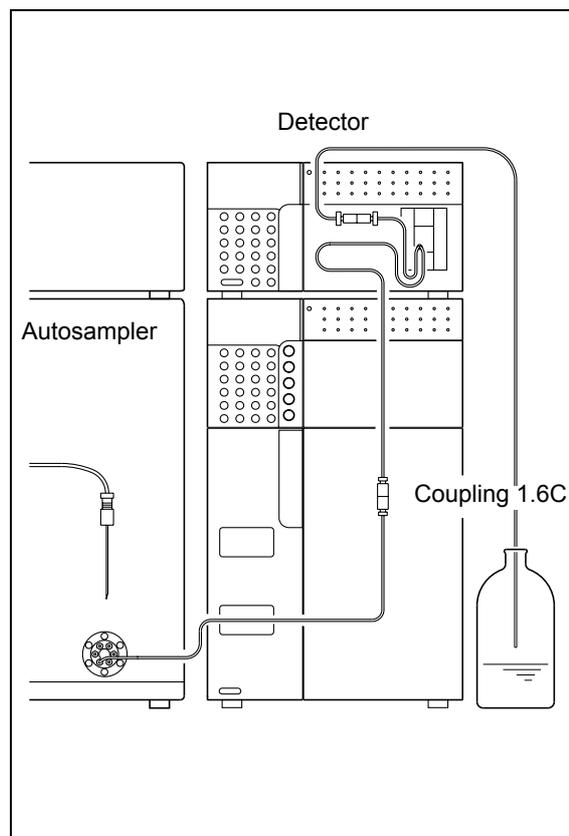

Fig. 7.11
3 Clean the system flow lines using one of the procedures described below. Before cleaning the flow lines, remove the column from the system, and connect the column inlet tubing to the column outlet tubing with a coupling 1.6C ("Fig. 7.11").
- 4 When cleaning is finished, pour mobile phase (A: water, B: methanol) into the reservoir bottle, and reconnect the column with the LC system ("Fig. 7.11"). Pour methanol into the reservoir bottle as a rinse liquid to purge the autosampler.